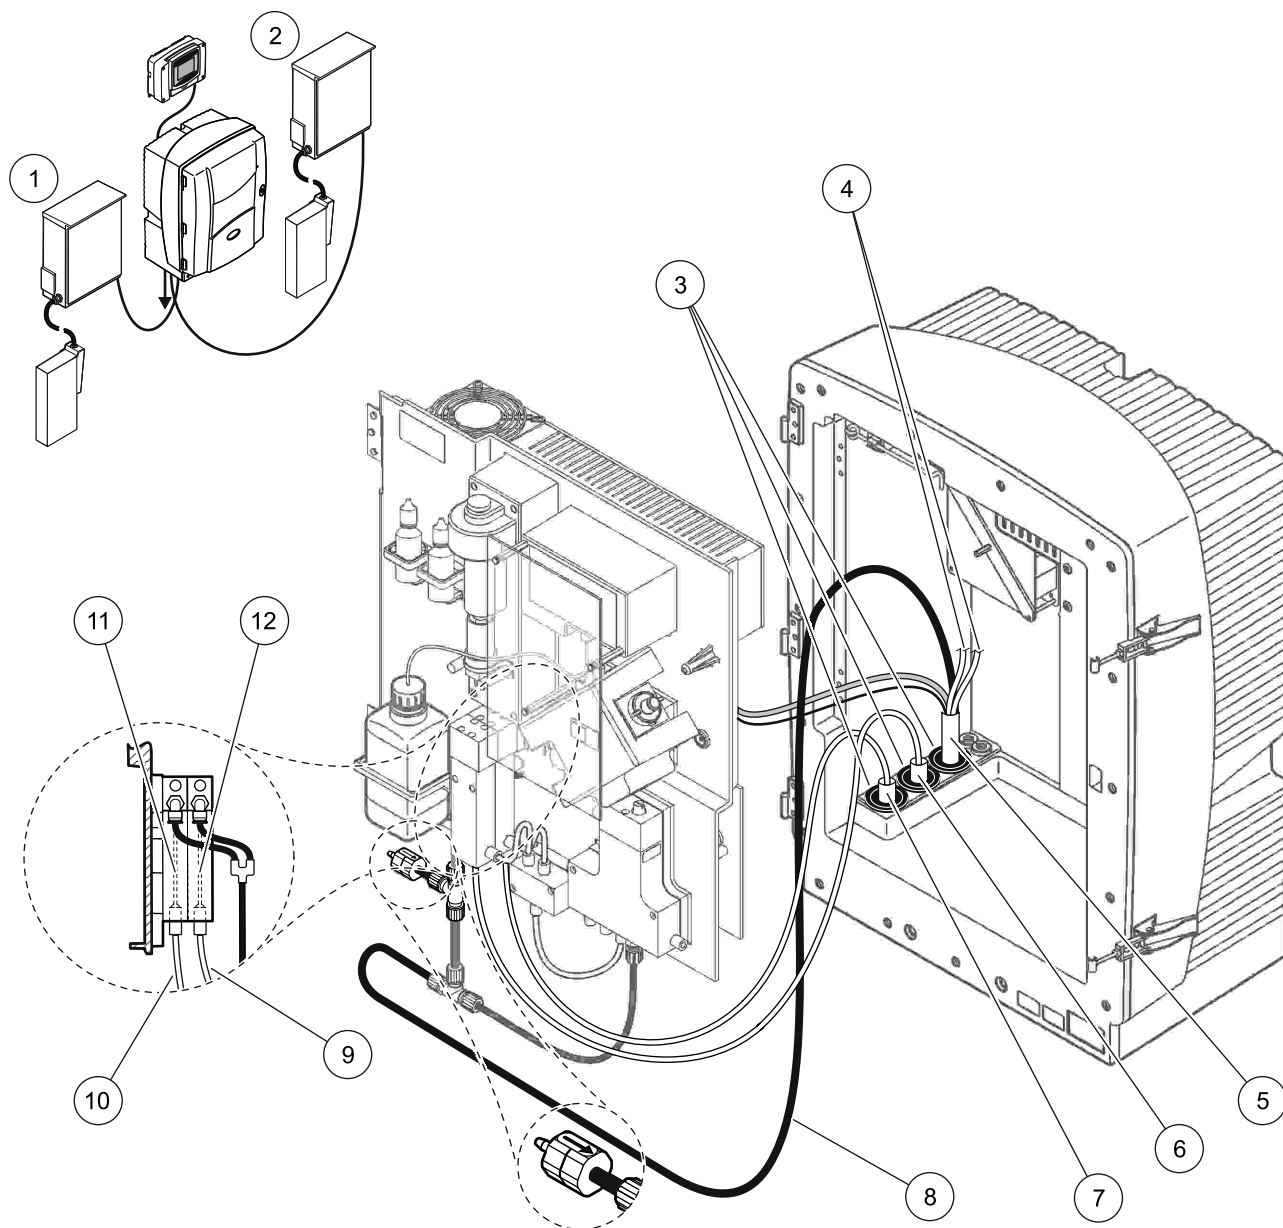

Figure 33 Option 5 setup
Refer to Figure 33 and the following instructions for Option 5:
2. Feed the heated hose from FILTRAX 1 through the analyzer opening (Figure 33, item 7). Use Seal Plug #1 to secure.
3. Feed the heated hose from FILTRAX 2 through the analyzer opening (item 6). Use Seal Plug #1 to secure.
4. Feed the heated drain hose through the analyzer (item 5). Use Seal Plug #1 to secure.